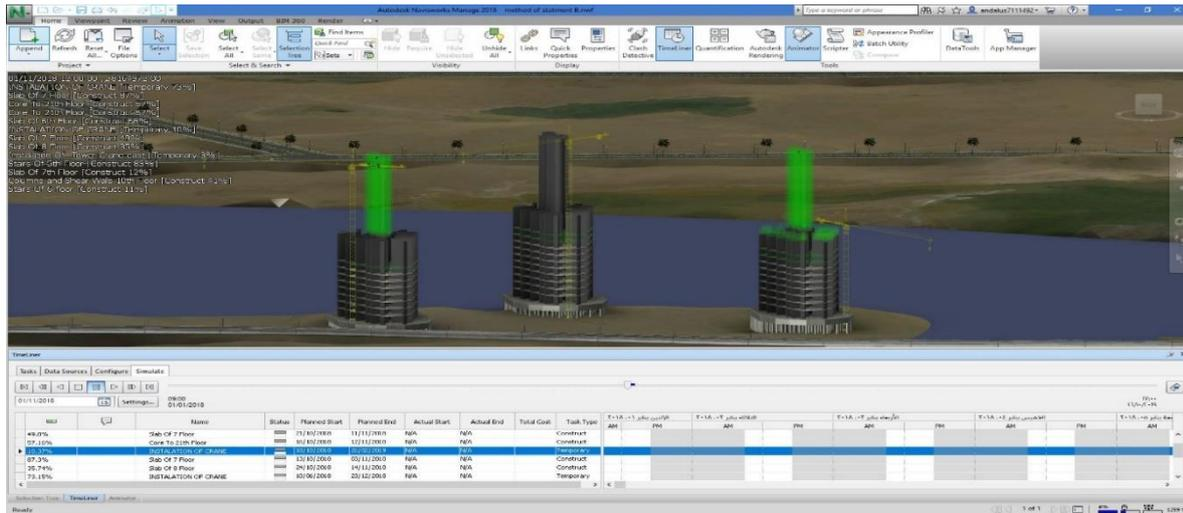

Figure 6: Navisworks (M.O.S 1 – The towers /ALAMEIN).
- Construction Of Slab(7) 65%- East tower
- Construction Of Slab(6) 35%- West tower
- As shown in figure 6